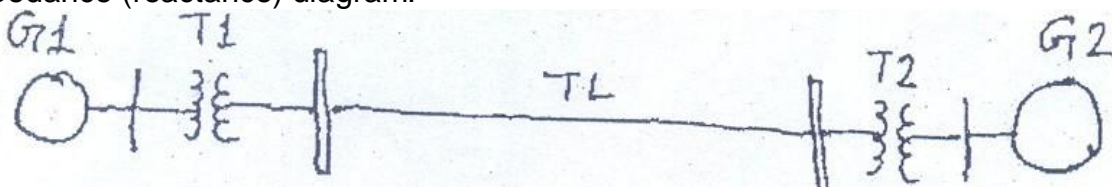

Fig. 5
5. Choosing a common base of 20 MVA, compute the per unit impedance (reactance) of the components of the power system shown in Fig.5 and draw the positive sequence impedance (reactance) diagram.